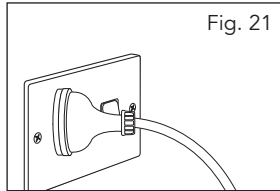

Fig. 21
1. Plug the electrical cord into the power point and turn on (Fig. 21).